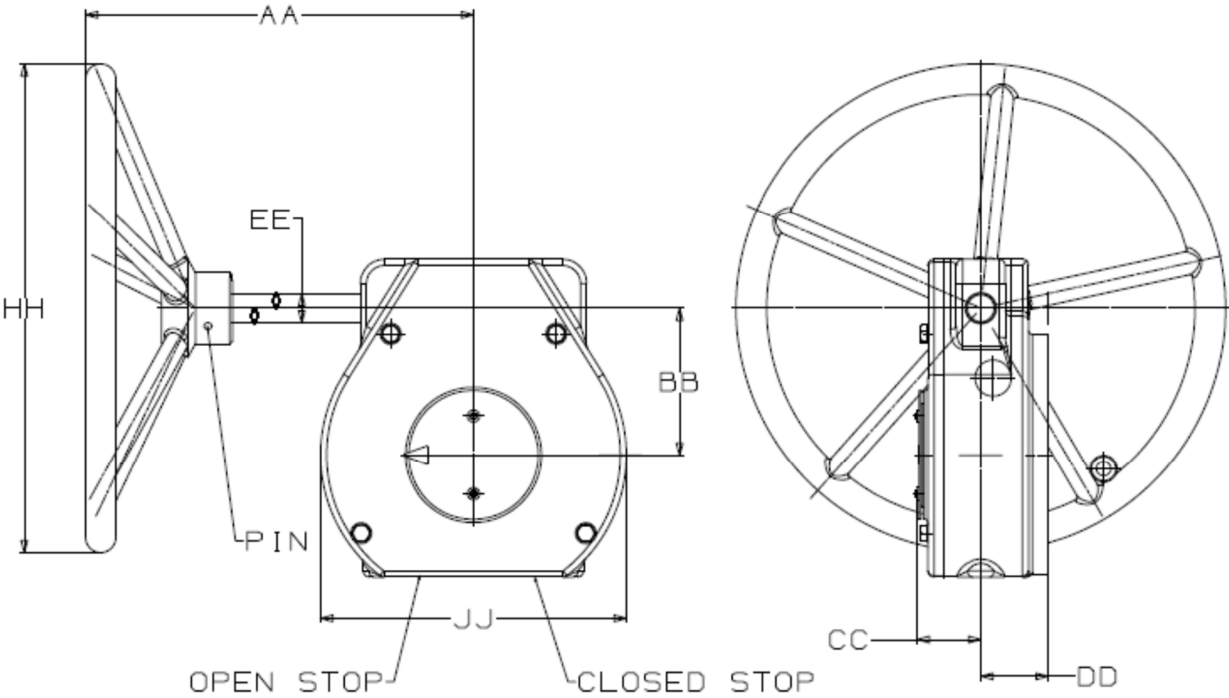

FIGURE 2
3. Loosen CLOSE stop nut on gear operator one turn by turning counterclockwise or remove outer set screw. See **FIGURE 2, 3, 4, & 5** on next pages.
See **FIGURE 2, FIGURE 3, FIGURE 4,** and **FIGURE 5** on next pages for drawings